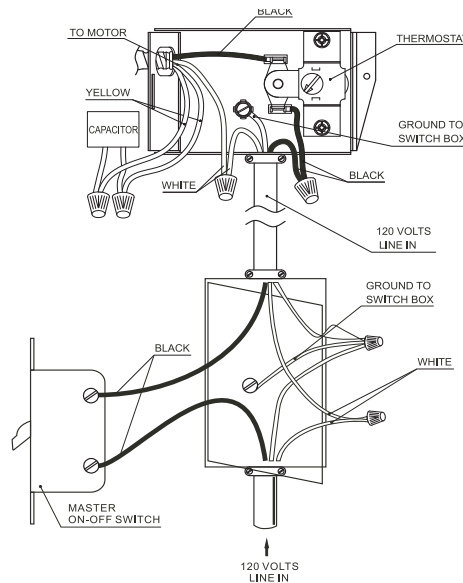
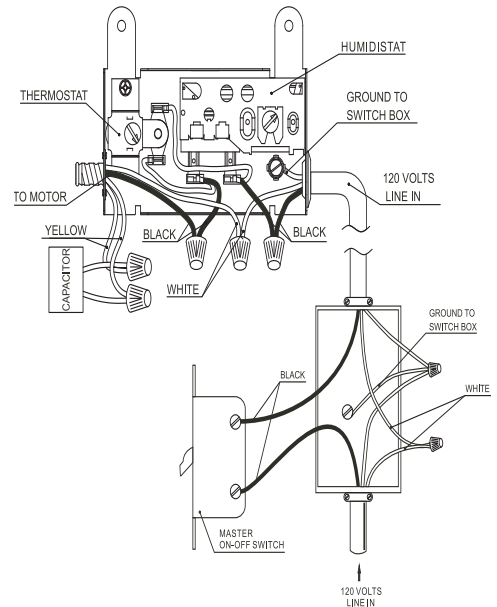

Figure 9 – Wiring Diagram for wire connection of 10N201
Figure 10 – Wiring Diagram for wire connection of 10N202
8. Connect the Black and White wire line out from the control box to the electric lines controlled by a master On/Off switch as shown in the wiring diagram in Fig 9 for 10N201 and Fig.10 for 10N202.